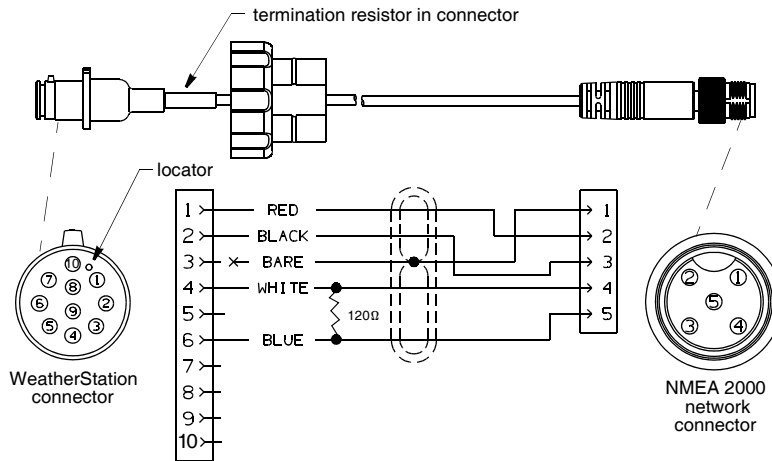

Figure 9. NMEA 2000® WeatherStation Cable [10m (33') shown]
**NOTE:** WeatherStation cables longer than 6m (20') have a termination resistor built into the WeatherStation connector (see Figure 9).